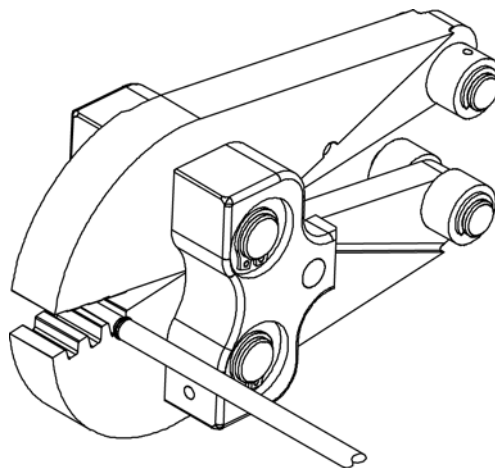

Figure 3
4. Insert stripped wire into ferrule as shown in Figure 3.